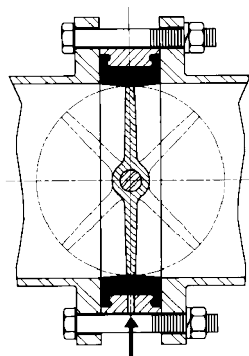
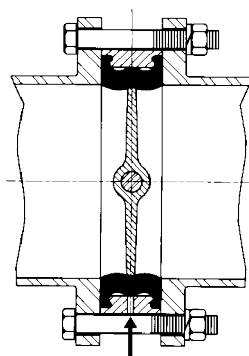

Fig. 4
Fig. 5
3. Adjust the valve body position so it is centered between the flanges. Install flange bolts and finger-tighten. Slowly open and close the valve manually without air pressure on the seat to insure proper alignment of valve (see Fig. 4). Return disc to closed position and **cross-tighten** all bolts until the flanges touch the valve housing. Connect the compressed air supply line but do not pressurize seat until the disc is in the closed position (see Fig. 5).